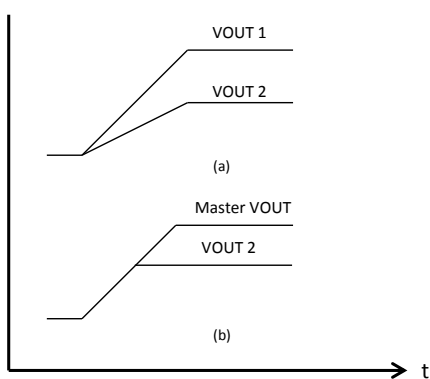

Figure 5 - PI33XX tracking methods
There is typically either proportional or direct tracking implemented within a design. For proportional tracking between several regulators at startup, simply connect all devices TRK pins together. This type of tracking will force all connected regulators to startup and reach regulation at the same time (see Figure 5 (a)).
All connected regulators’ soft-start slopes will track with this method. Direct tracking timing is demonstrated in Figure 5 (b). All tracking regulators should have their Enable (EN) pins connected together to work properly.